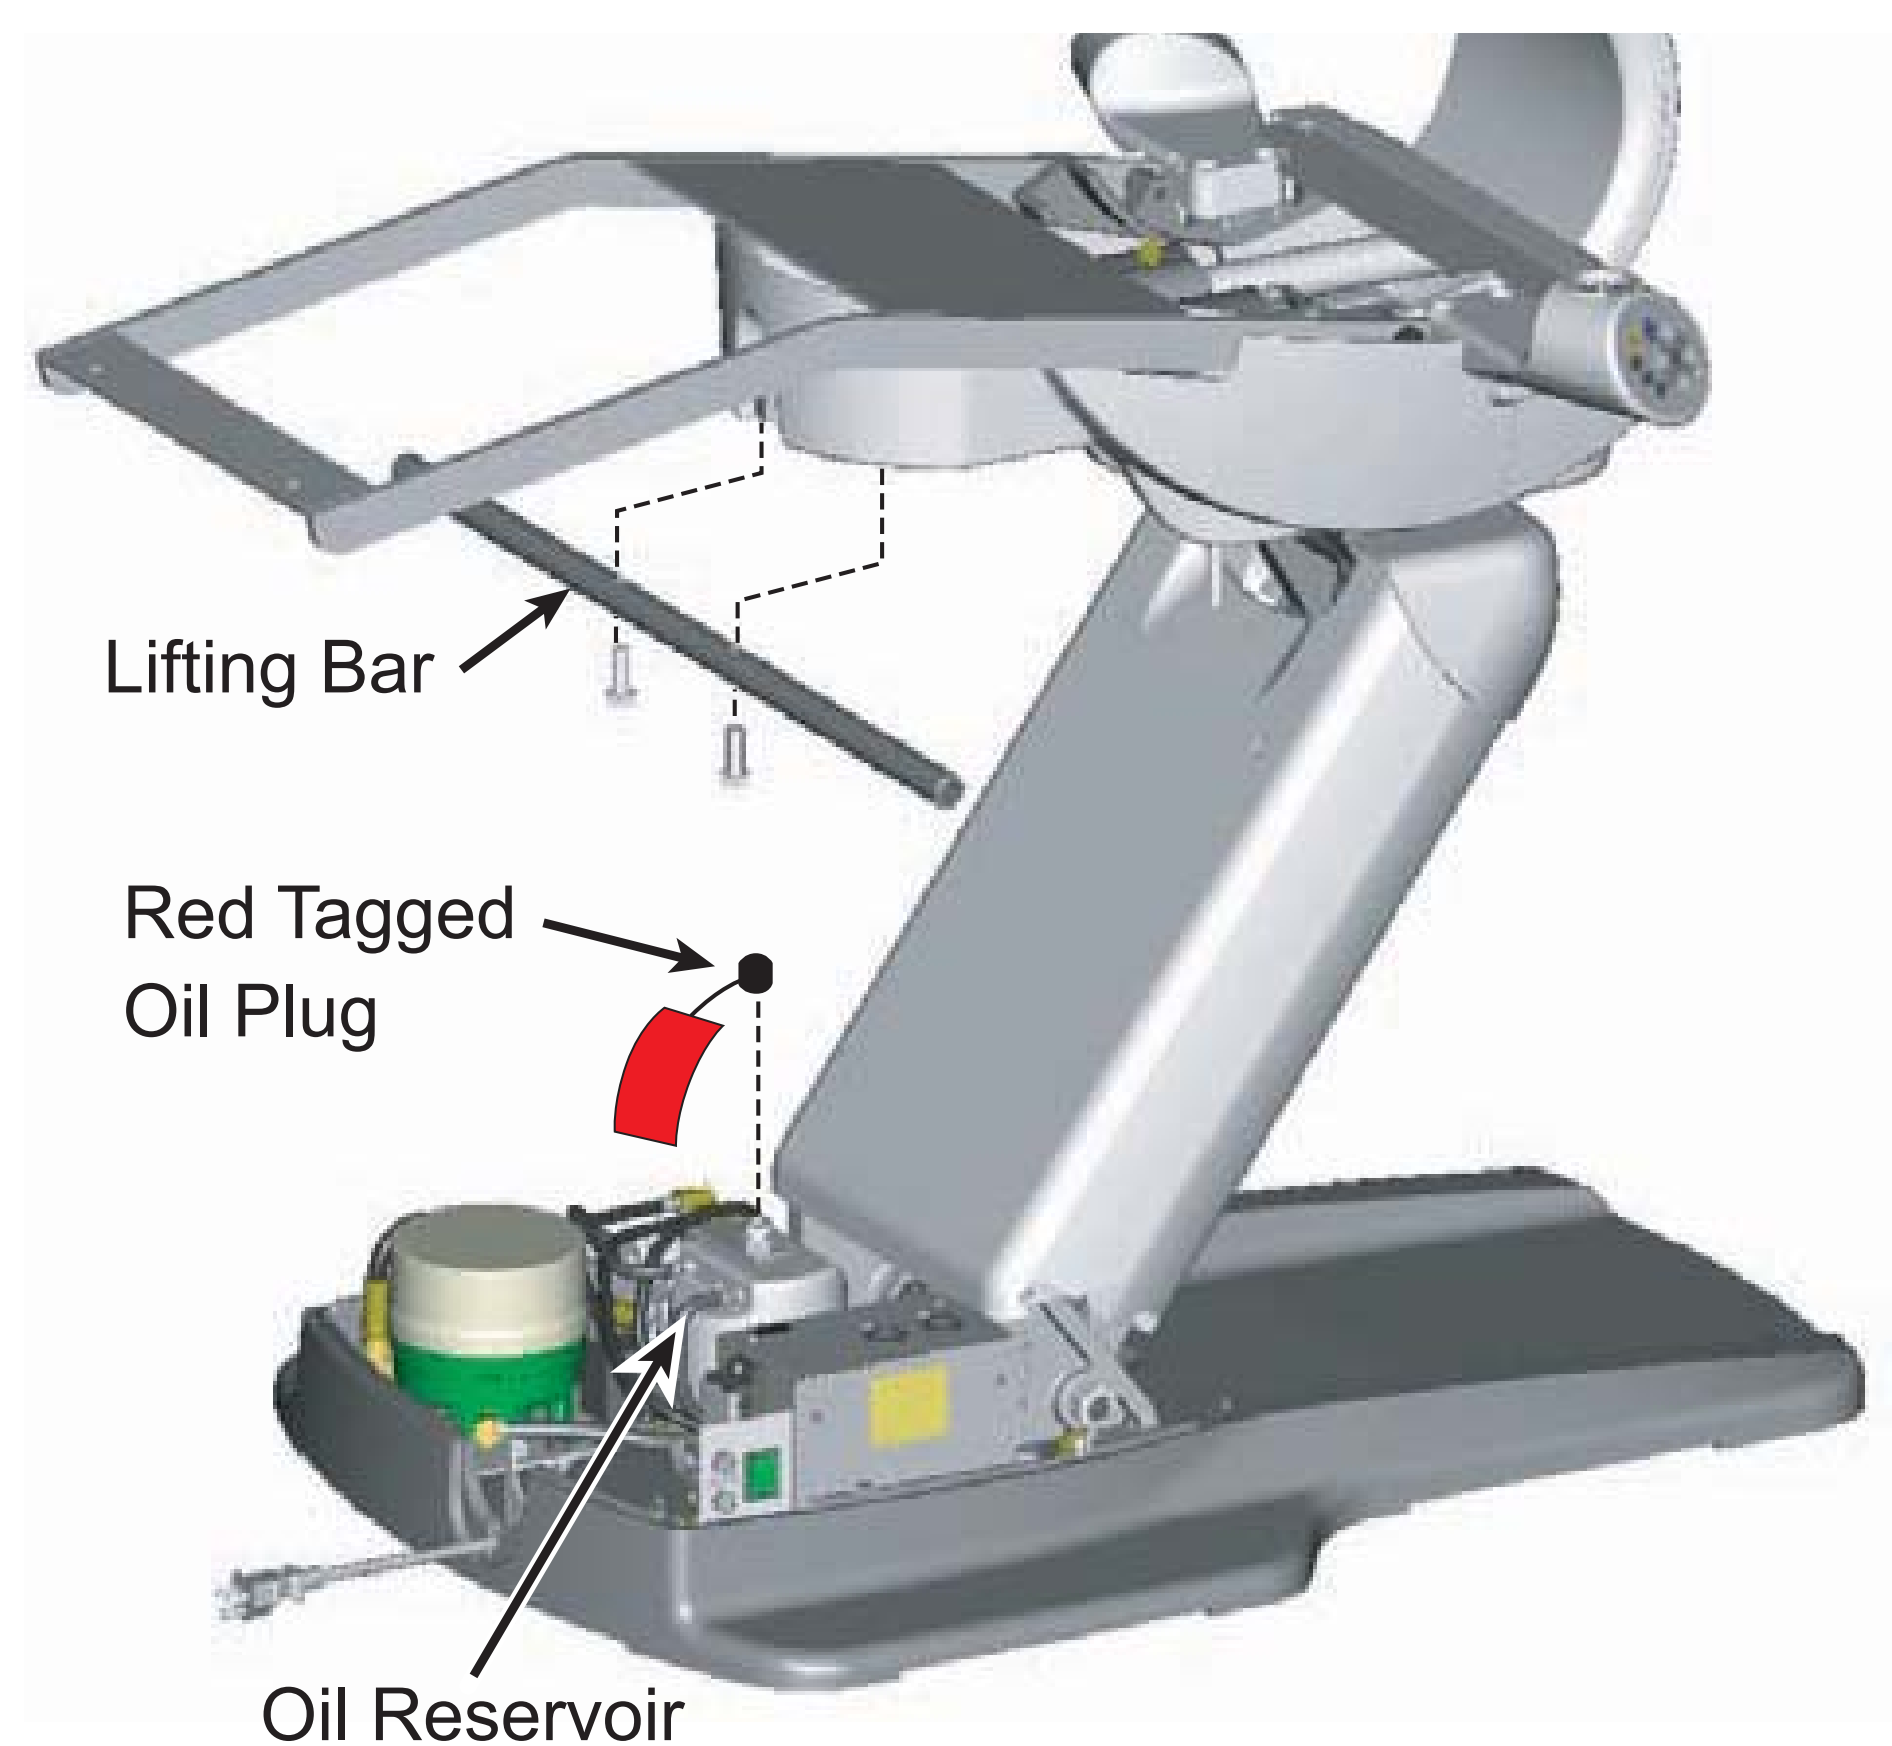

Fig. 5-4
6. Remove the red tagged Oil Plug from the Oil Reservoir. (Fig.5-4)
7. Remove the Lifting Bar from the chair by removing two M10x30mm bolts. (Fig.5-4)